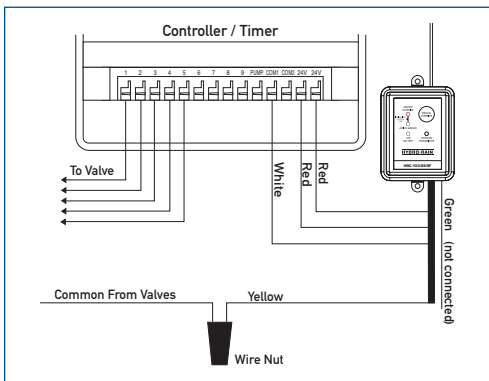

Figure 4: Wiring sprinkler timer without sensor terminals with booster pump
3. Disconnect the common valve wire from the timer, and attach it (using a wire nut) to the yellow (normal closed) wire from the rain/freeze receiver. (See Figure 4)
5. Connect the (2) red “24V” wires to the 24V terminals of the timer.